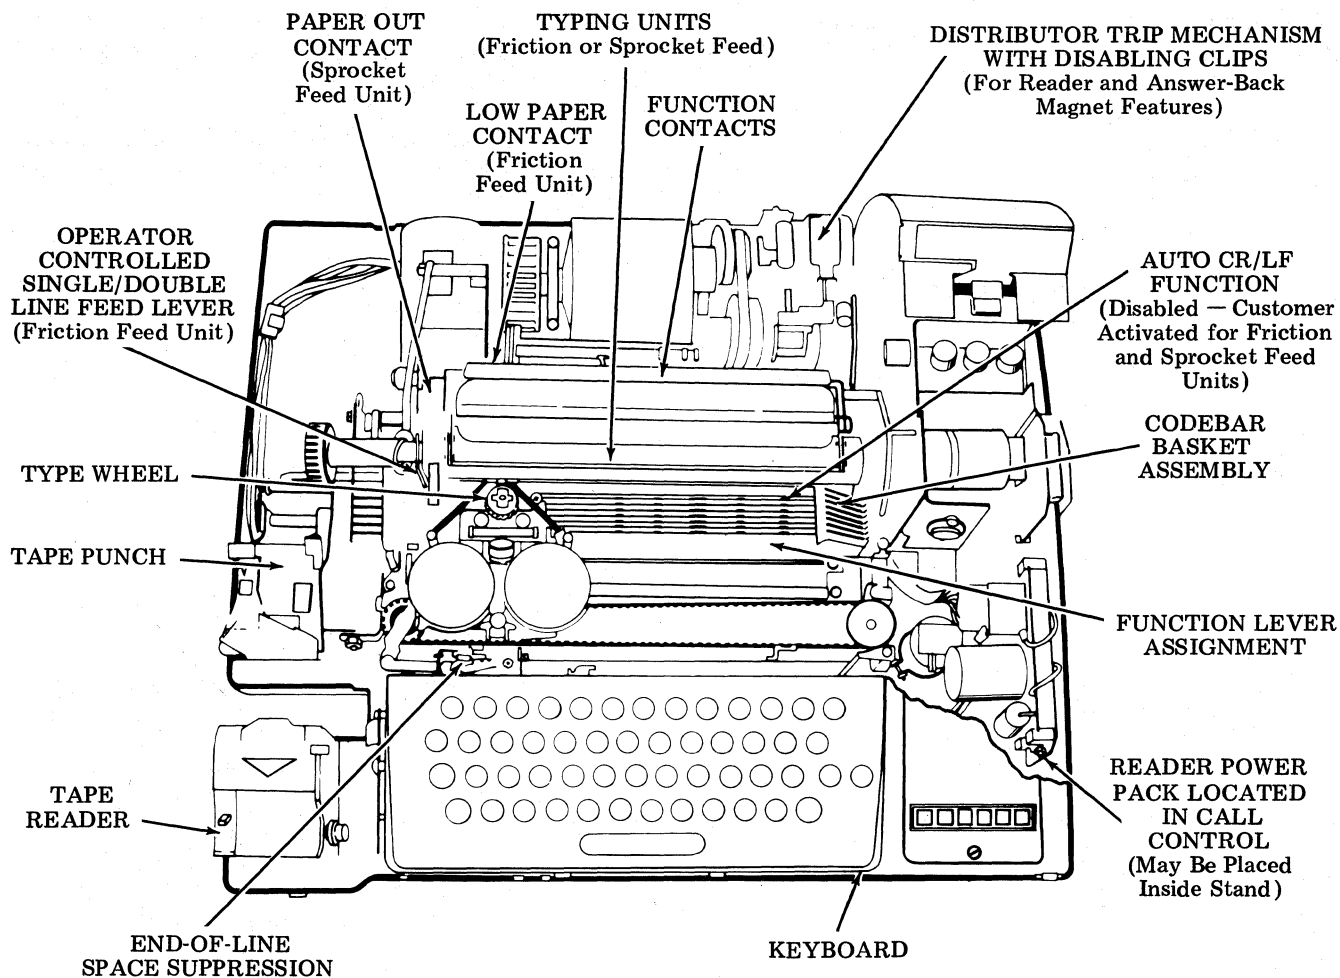

Figure 5 - Typical Model 33 Automatic Send-Receive (ASR) Teletypewriter Set With Cover Removed
tape reader, and answer-back mechanism. The ASR set (Figure 5) consists of the following components:
3.12 There is a choice of either manual or an automatic/manual tape reader in the 33 line (Figure 5). Refer to Section 574-124-100TC for the detailed description of the readers.